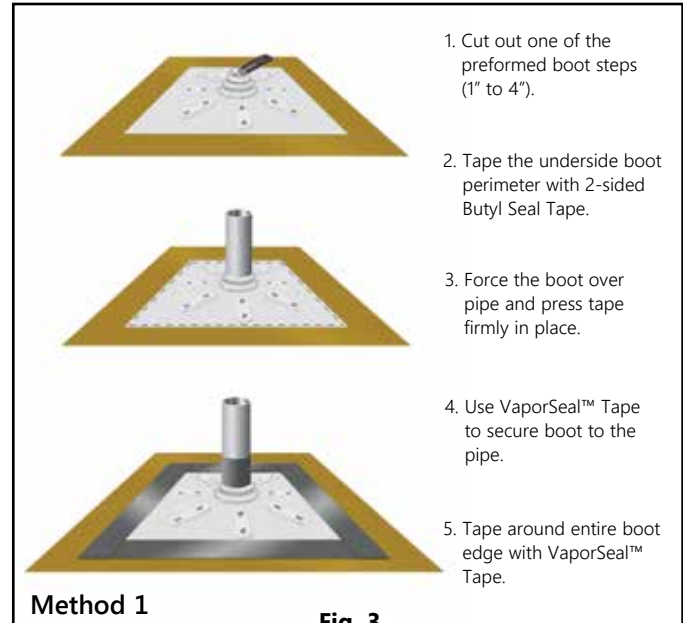

Fig. 3
1.4a. **Method 1:** Pipes four inches or smaller can be sealed with VIAFLEX VaporBoot Plus preformed pipe boots. VaporBoot Plus preformed pipe boots are formed in steps for 1", 2", 3" and 4" PVC pipe or IPS size and are sold in units of 12 per box (Fig. 3 & 5).